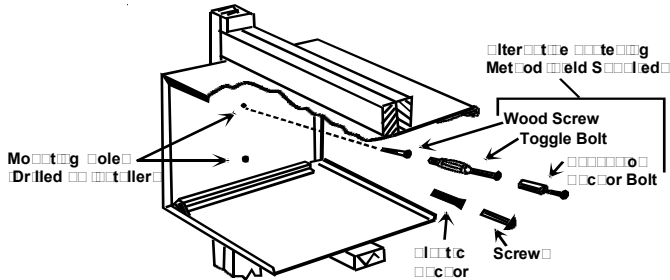

Figure 9
- Attach the sleeve using four 2x2 wood screws (for wood constructed buildings) or four 2x2 masonry screws (for cement or brick constructed buildings) (Figure 9). Make sure the wall construction is adequate to support the unit.